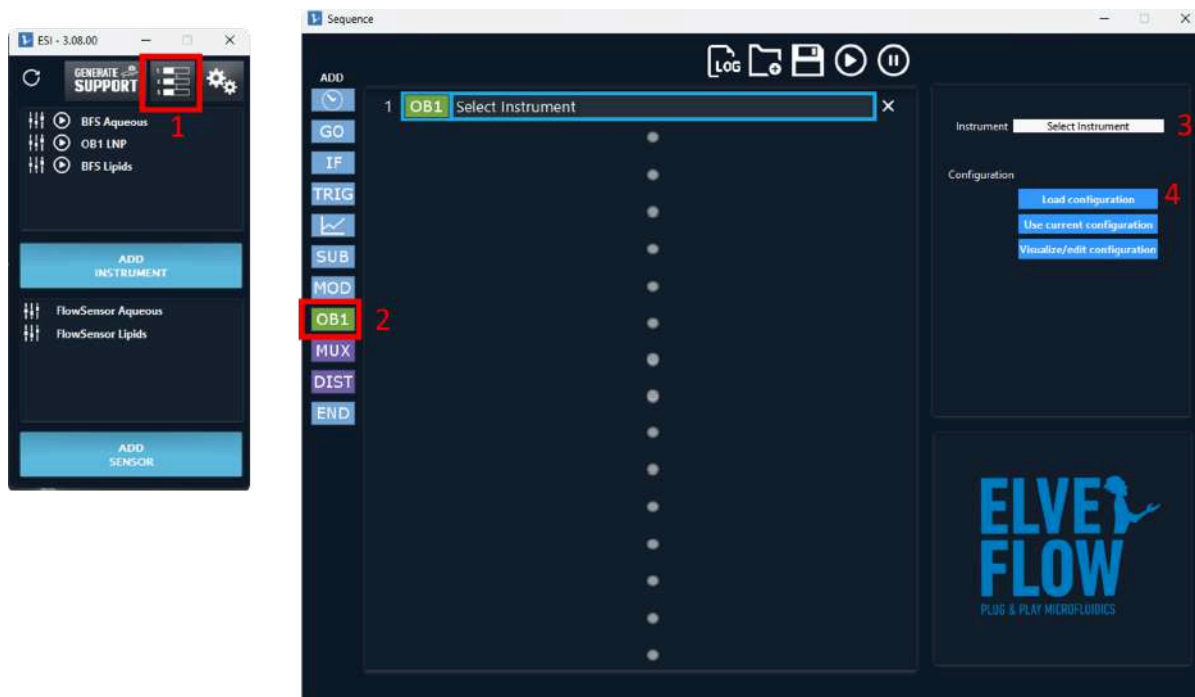

Figure 36: Open the sequencer and load a configuration
Once this first step is done, you can open the sequencer and start building your sequence. Figure 36 shows you the steps to (1) open the sequencer, (2) add a command about the OB1, (3) select the OB1 in the list of instruments and (4) load the configuration you want to start with (the one you saved previously).